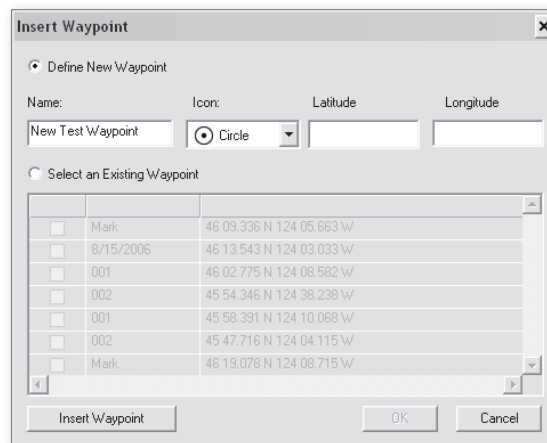

Figure 9.2 - PlanBook - Insert Waypoint Window
4. Click **Insert After** or **Insert Before**. The Insert Waypoint Window will be displayed (see **Figure 9.2**).